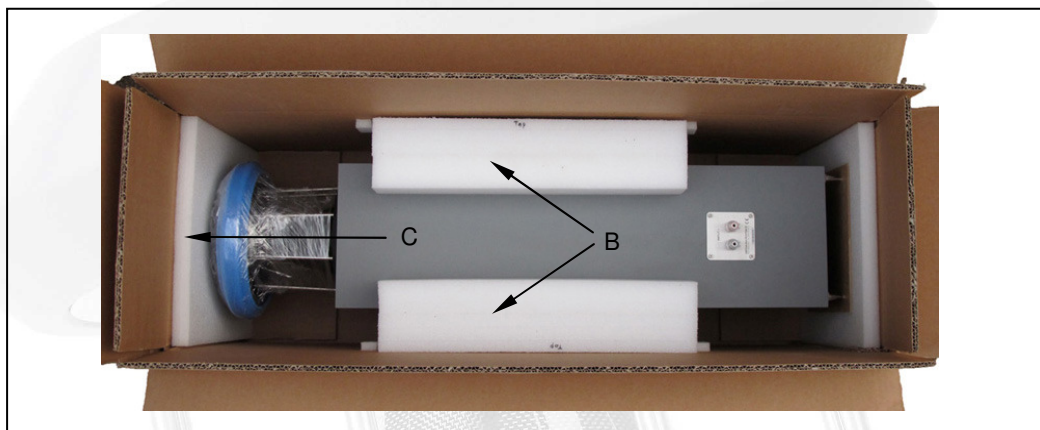

Figure 2. Limited 11 Shipping Carton
3. Open the flaps on the inner carton and remove the three foam packing pieces B and C in figure 2.